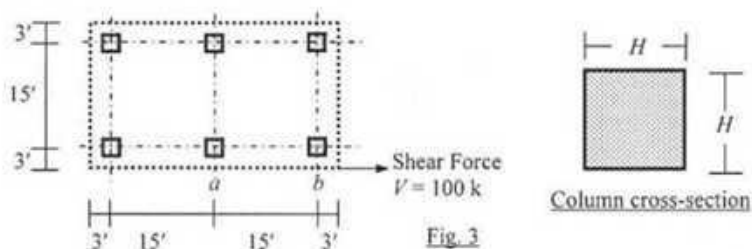

Fig. 3
4. Fig. 3 shows plan of a building floor supported by six columns and subjected to shear force  $V = 100$  k, applied as shown.